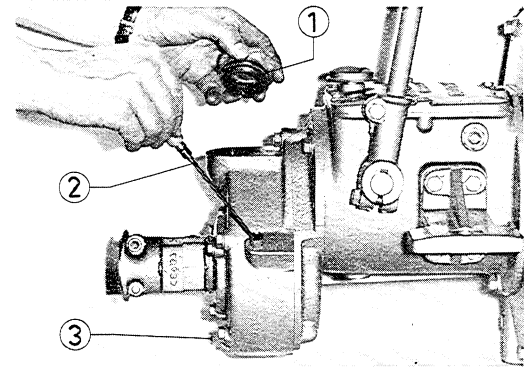

Fig. 4 1 Oil filler cap
- 2 Fill the reduction gear with oil through the filler cap, fig. 4, No. 1. Check the level with the dipstick, fig. 4, No. 2.